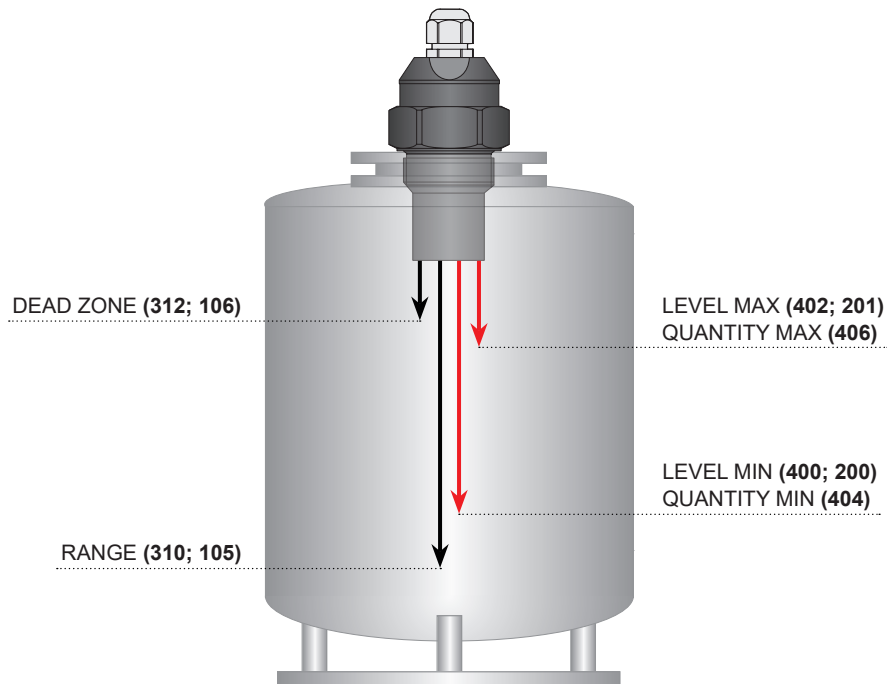

Fig. 1: Basic level meter commands
| 200 | 0xC8 | Word | R/W | LEVEL MIN [mm] | Lower level measuring setting (Distance from level meter in [mm]) see Fig. 1 |
| 201 | 0xC9 | Word | R/W | LEVEL MAX [mm] | Upper level measuring setting (Distance from level meter in [mm]) see Fig.1 |
| 400 | 0x190 | DWord | R/W | LEVEL MIN IEEEE754 | Lower level measuring setting (Distance from level meter) – see Fig.1 and LEVEL UNIT (205) |
| 402 | 0x192 | DWord | R/W | LEVEL MAX IEEEE754 | Upper level measuring setting (Distance from level meter) – see Fig.1 and LEVEL UNIT (205) |
| 404 | 0x194 | DWord | R/W | QUANTITY MIN IEEEE754 | Min. medium quantity set in tank (adequate LEVEL MIN) – see Fig.1 and QUANTITY UNIT (206) |
| 406 | 0x196 | DWord | R/W | QUANTITY MAX IEEEE754 | Max. medium quantity set in tank (adequate LEVEL MAX) – see Fig.1 and QUANTITY UNIT (206) |